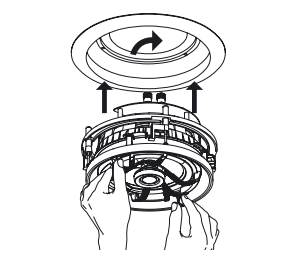

Figure 3. Installing the loudspeaker.
2. Remove the loudspeaker module from the frame by turning the loudspeaker assembly counter-clockwise using the two tabs provided. Place the loudspeaker assembly to the side when removed for installation after the frame has been mounted. Take care to place it so that the woofer, tweeter or crossover on the rear are not damaged. (See **Figure 3**)